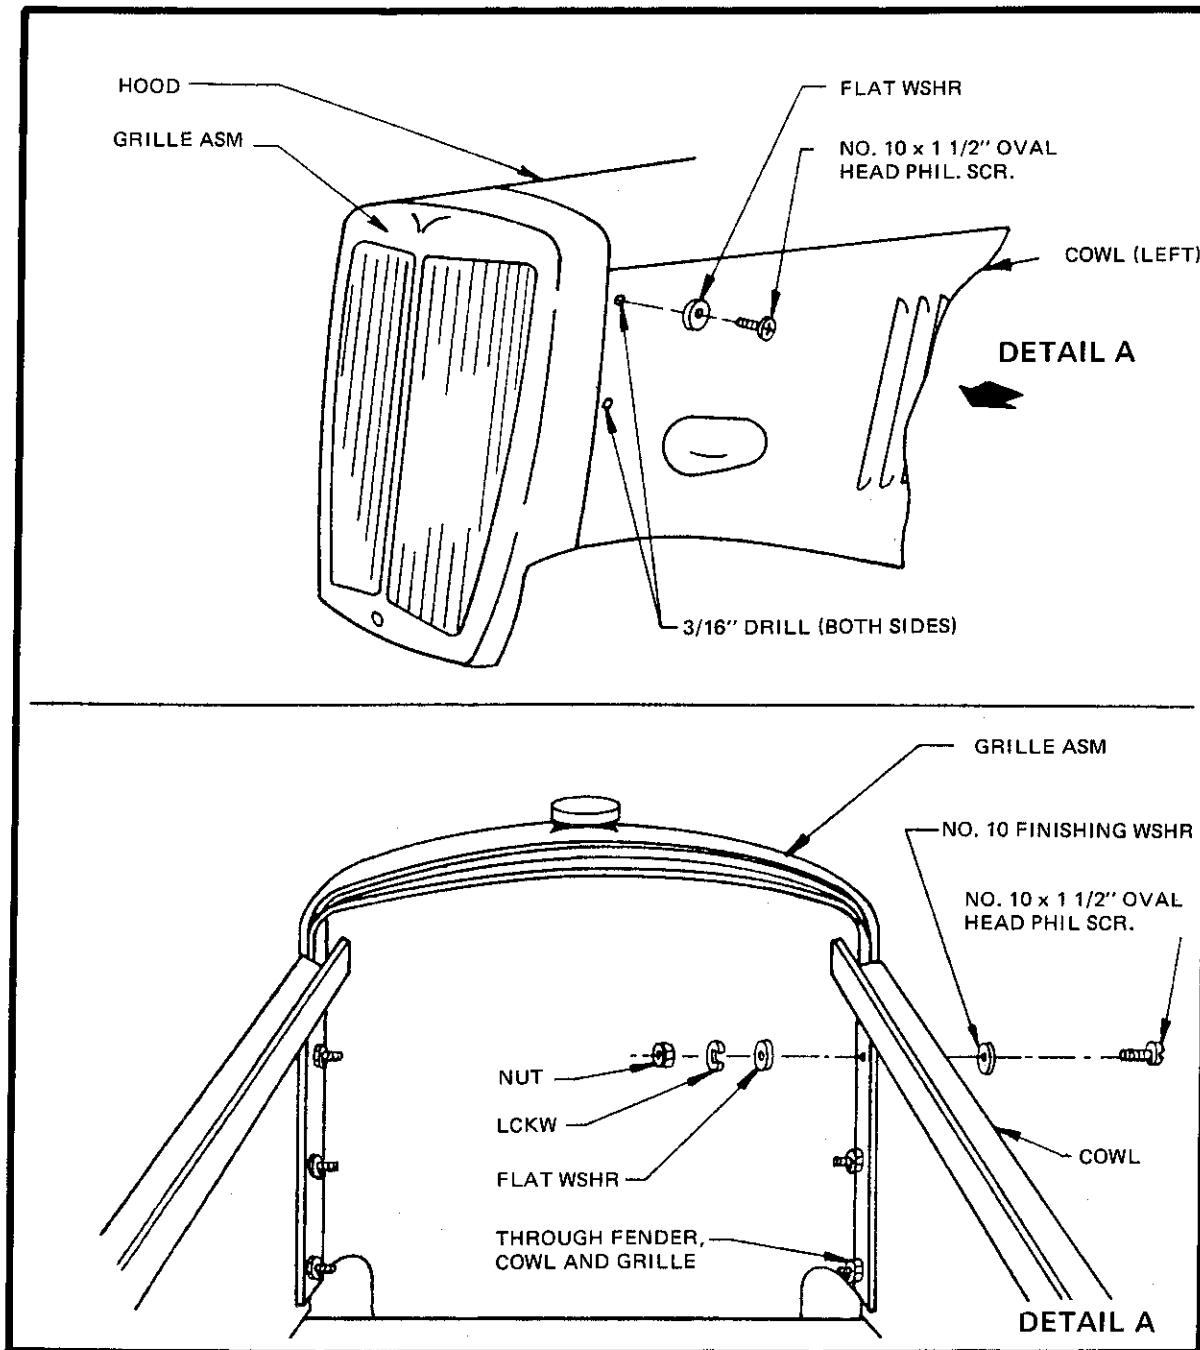

Figure 45
- ☐ Slide the grille into place. Pull the grille assembly up as far as possible until shell contacts hood. (Figure 45) It may be necessary to further sand hood or cowls for a good fit where it contacts the grille shell. Hold shell in place and mark through the upper holes in cowl and grille shell (3/16"). Remove hood. Insert No. 10 x 1 1/2" oval head phillips screws with finishing washers. Using washers, lock washers and nuts, secure grille to body. Drill and bolt through lower hole in front part of fender.